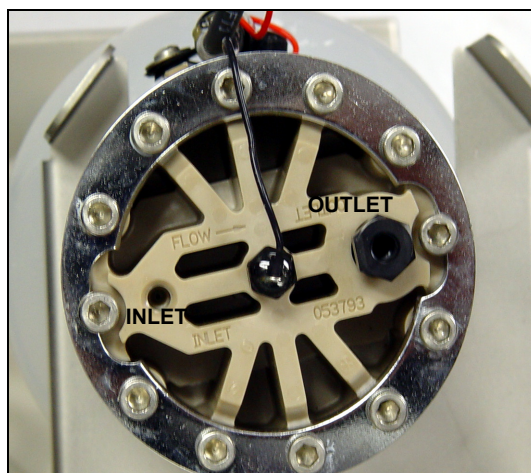

Figure 9-15. EluGen Cartridge Inlet and Outlet Fittings
9. Disconnect the **EGC IN** and **EGC OUT** lines from the **INLET** and **OUTLET** ports on the EluGen cartridge (see Figure 9-15).
4. Remove the 10-32 plugs from the **INLET** and **OUTLET** fittings on the eluent generation chamber (see Figure 9-15).